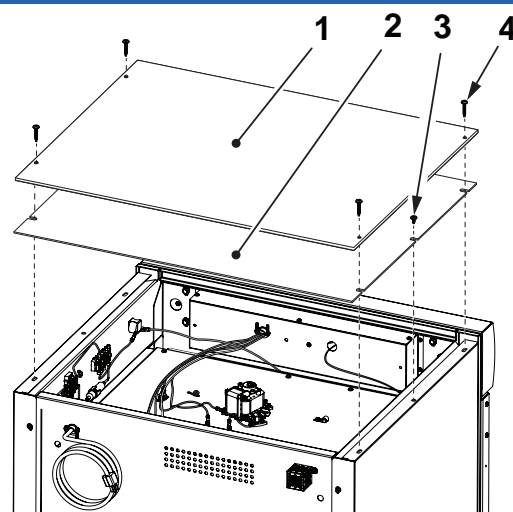

Figure 12: Remove Top Covers
1. Remove four 8 X 1-5/8" self tapping screws and lift off the Top Outer Panel. See Figure 12.
2. Remove two 8 X 1/2" self tapping screws and lift off the Top Inner Panel. See Figure 12.
9. Re-install the Inside Top Panel using two 8 X 1/2" self-tapping screws. See Figure 12.
10. Re-install the Outside Top Panel using four 8 X 1-5/8" self-tapping screws. See Figure 12.